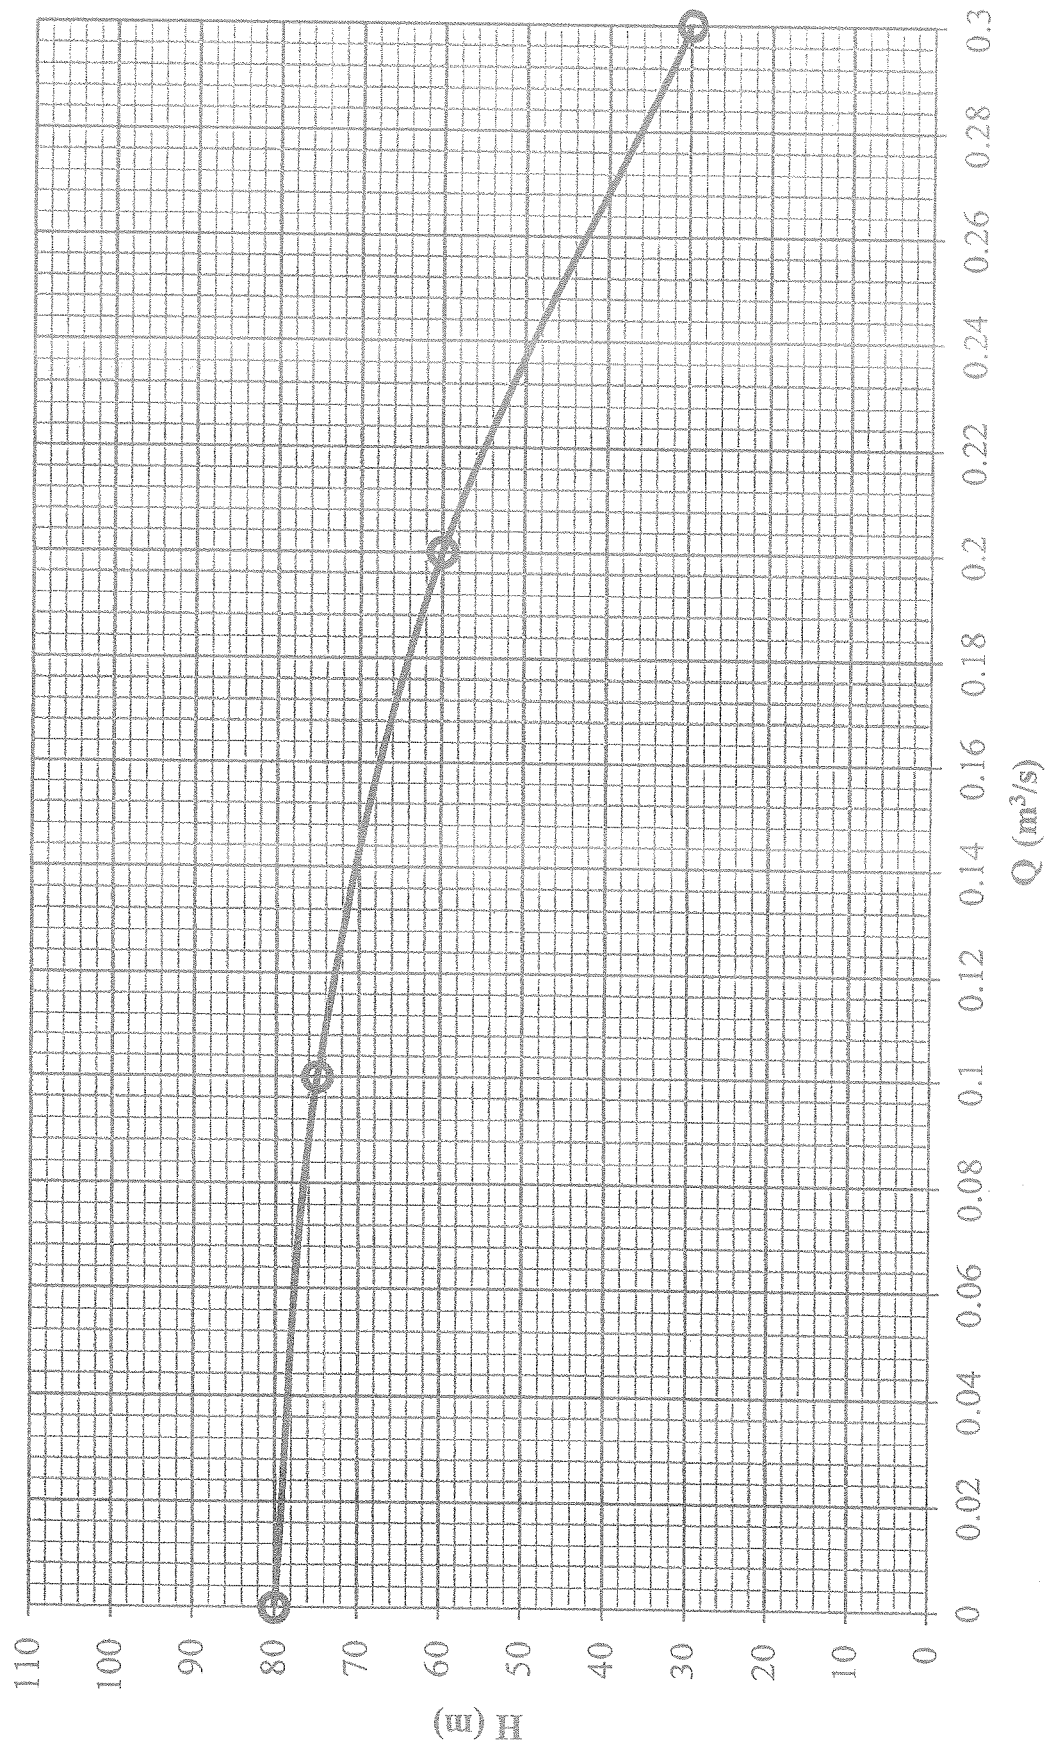

Figure Q2
- c) The pump characteristic curve is given in Figure Q2 for the pump operating at 1200 rpm.
- Derive an expression for system characteristic curve and plot it in Figure Q2 (Page 4).